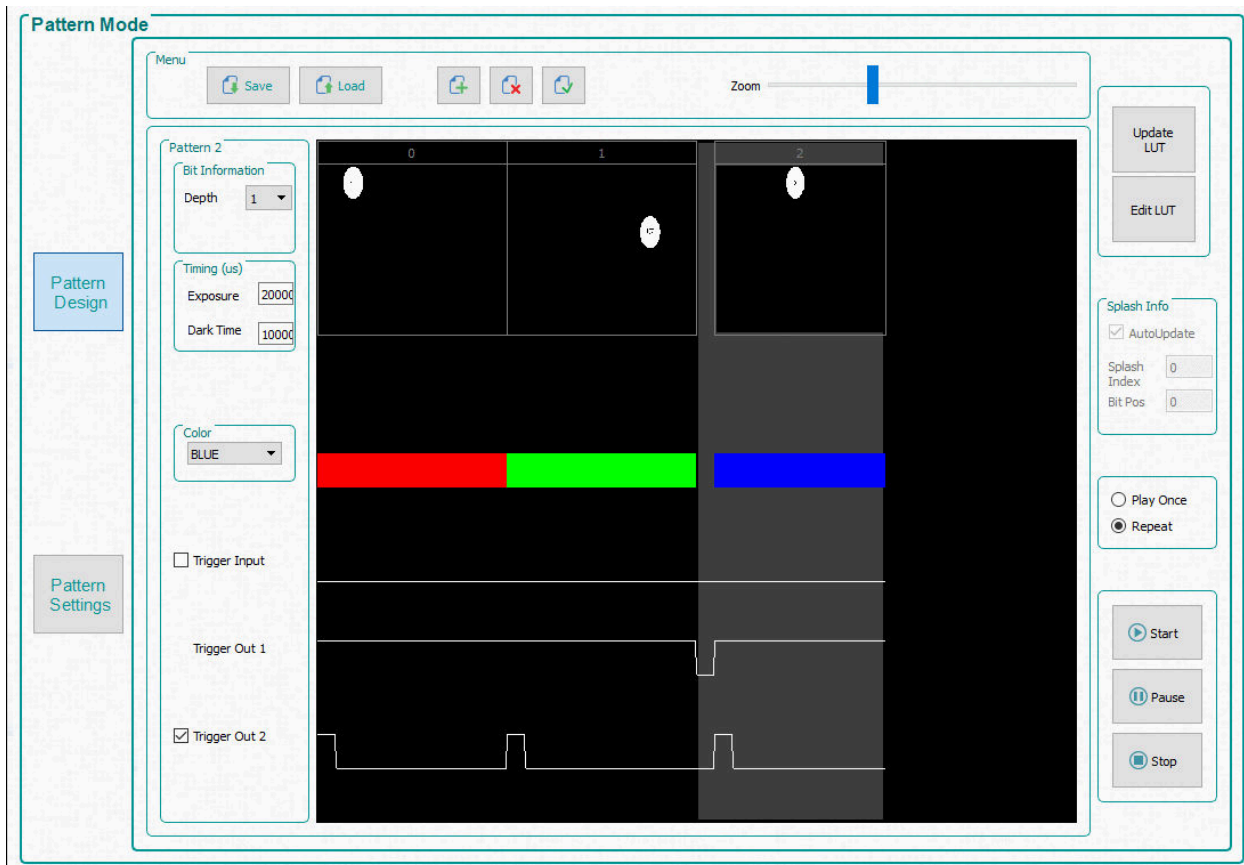

Figure 6-10. Three Pattern Sequence
7. Select the third pattern and choose a bit depth of 1. Set exposure to 200000 μ s and set dark time to 100000 μ s, and select **Blue** as the color. Figure 6-10 shows the pattern sequence. The *Zoom* bar can be used to zoom in and out which is useful when many patterns are loaded into the panel.